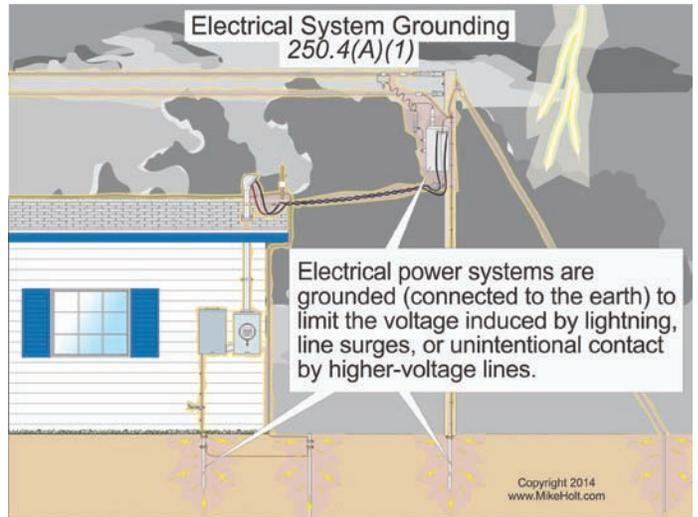

Figure 250-3
**(A) Solidly Grounded Systems.**
**(1) Electrical System Grounding.** Electrical power systems are grounded (connected to the earth) to limit the voltage induced by lightning, line surges, or unintentional contact by higher-voltage lines. Figure 250-3